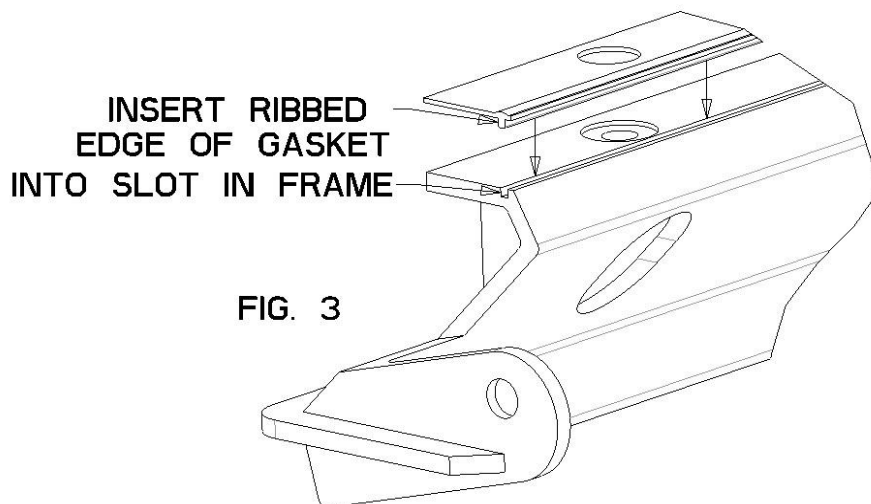

FIG. 3
6. Lay gasket flat on top of bottom evaporator frame with the ribbed edge of gasket in the slotted portion of the bottom evaporator frame (Fig. 3).